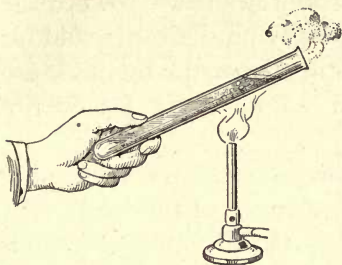

FIG. 121.—Water is a poor conductor of heat, as is shown by the experiment.
of cold water. Heat the upper part of the tube with a Bunsen burner as shown in Figure 121. The water at the upper part of the tube may be boiled for some time without melting the ice.
**Convection in Liquids.**—Although liquids are poor conductors of heat, they may be readily heated by convection. In conduction there was no movement of the molecules from one end of the metal rod to the other, but only vibrations of the molecules in a limited space. In convection, however, the molecules move from place to place. If the heat had been applied to the bottom of the test tube in Figure 121, the ice would have melted quickly, and the whole tube of water would have heated evenly. This shows that heat is transferred much more rapidly from the bottom of the tube toward the top than from the top toward the bottom.